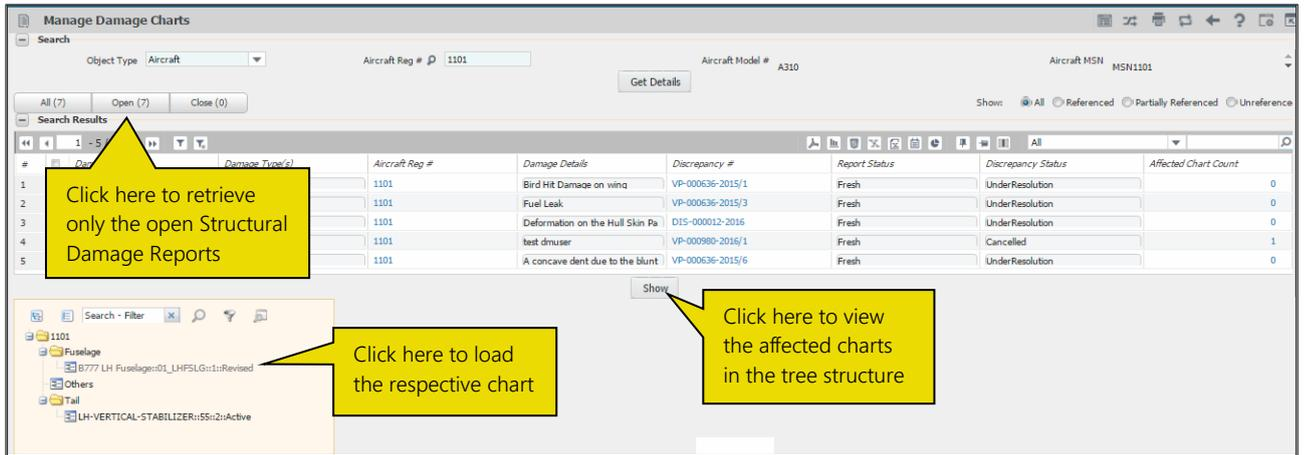

Figure 3.5 Managing damage charts
1. Select the option Aircraft against which charts have been uploaded, from the **Object Type** drop down list box. See Figure 3.5.